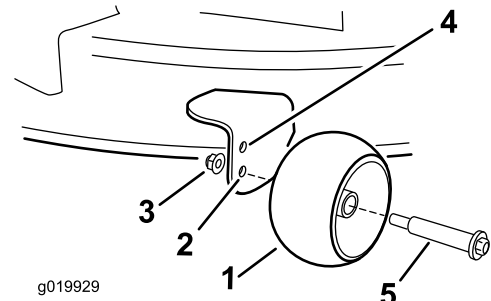

Figure 27
- Upper hole—use this position with the mower deck in the 63 mm (2-1/2 inch) and below the height-of-cut positions (Figure 27).
- Lower hole—use this position with the mower deck in the 76 mm (3 inch) and above the height-of-cut positions (Figure 27).